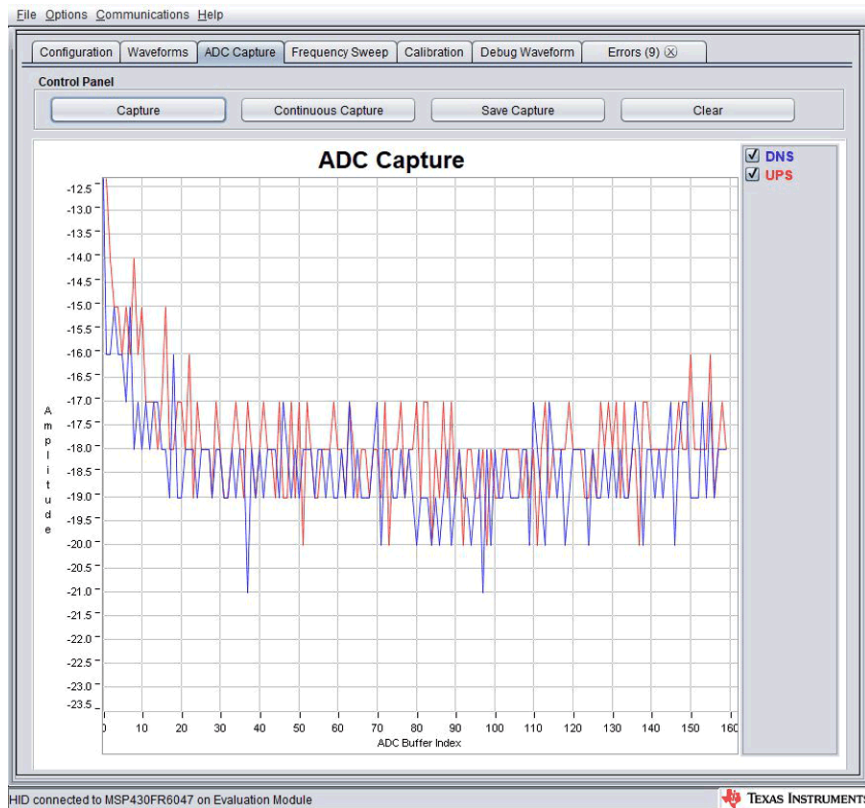

Figure 13. Captured ADC Signal With No Water or Bad Connection
- Be sure that the pipe is filled with water. If no water is in the pipe or the transducers are not connected properly to the EVM, the captured signal may look similar to Figure 13.